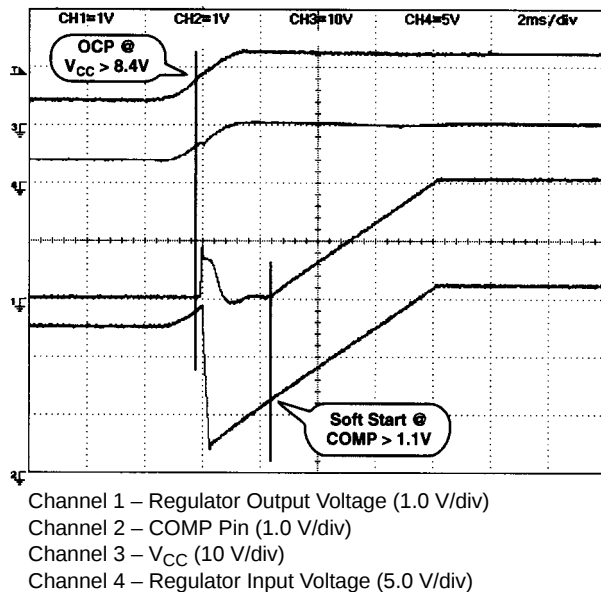

Figure 12. Startup with COMP Pre-Charge to 2.0 V (2.0 ms/div)
If the voltage across the Current Sense resistor generates a voltage difference between the V_{FB} and V_{OUT} pins that exceeds the OVC Comparator Offset Voltage (86 mV typical), the Fault latch is set. This causes the COMP pin to be quickly discharged, turning off GATE(H) and the upper NFET since the voltage on the COMP pin is now less than the 1.1 V PWM comparator offset. The Fault latch is reset when the voltage on the COMP decreases below the discharge threshold voltage (0.25 V typical). The COMP capacitor will again begin to charge, and when it exceeds the 1.1 V PWM comparator offset, the regulator output will Soft Start normally (see Figure 12).